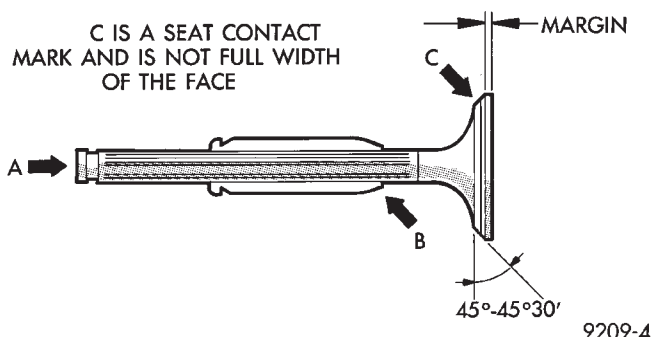
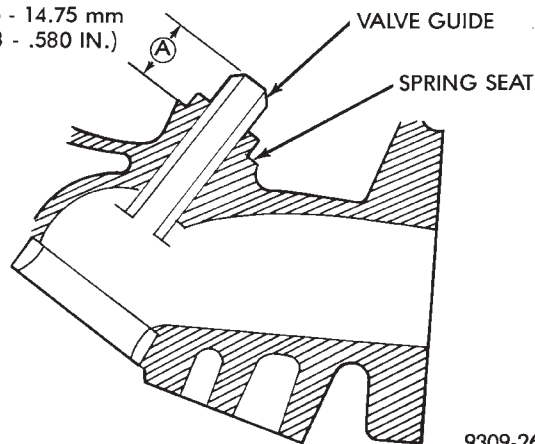

Fig. 19 Valve Inspection
Fig. 20 Valve Guide Height
- (1) Check valve stem tip for pitting or depression at point A (Fig. 19).
- (2) Check for wear and ridge wear at Point B.
- (3) Check for even contact (at face center) with valve seat, Point C.
- (4) Check margin. Replace valve if margin is out of specification (Fig. 20).
- (5) Check valve guide height (Fig. 20).